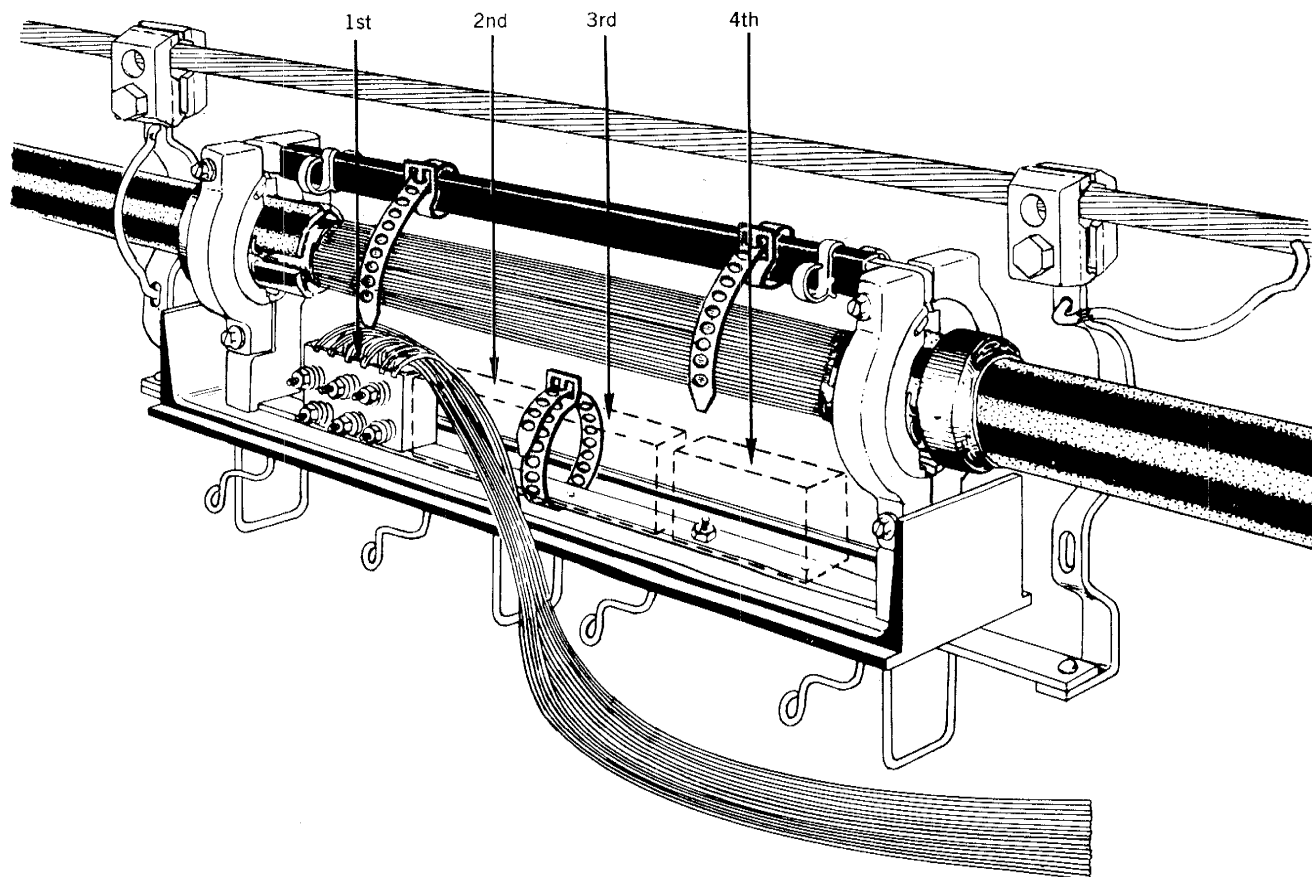

Fig. 2 — Terminal Block Mounting Positions
2.02 The P-18A782 Terminal Block is mounted in the first position. When additional blocks are required, mount them in the order shown in Fig. 2.